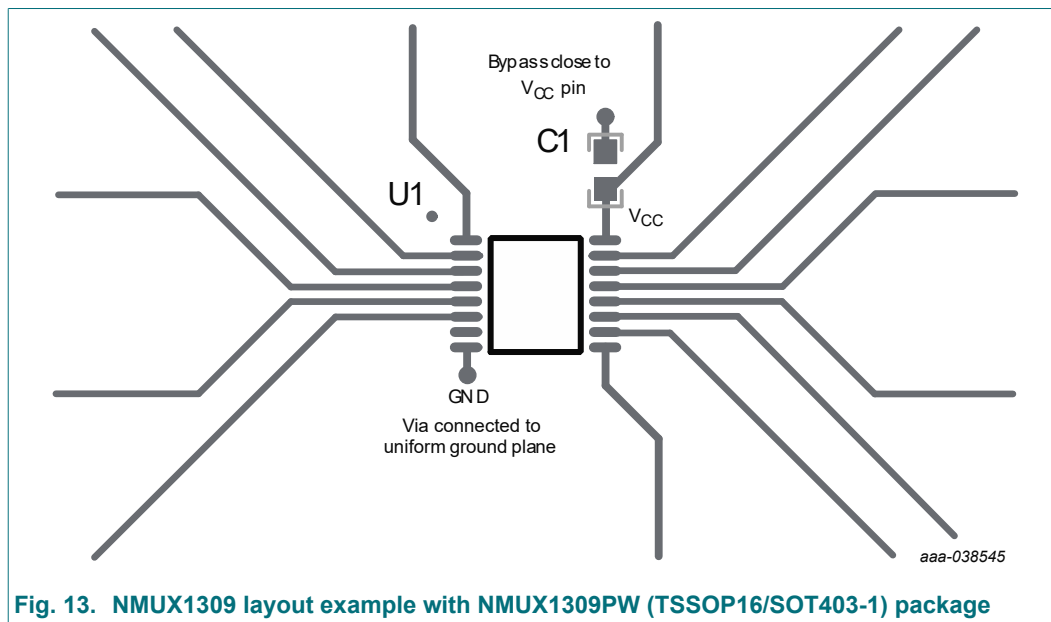

Fig. 13. NMUX1309 layout example with NMUX1309PW (TSSOP16/SOT403-1) package
The image provided below (Fig. 13) offers a glimpse into an example PCB layout with the (PW) package. Bypass capacitors should be positioned near the  $V_{CC}$  pin, and the GND pin should be connected to external/internal GND planes. A uniform GND plane helps in reducing noise and minimizing loop inductance, thereby ensuring optimal performance.